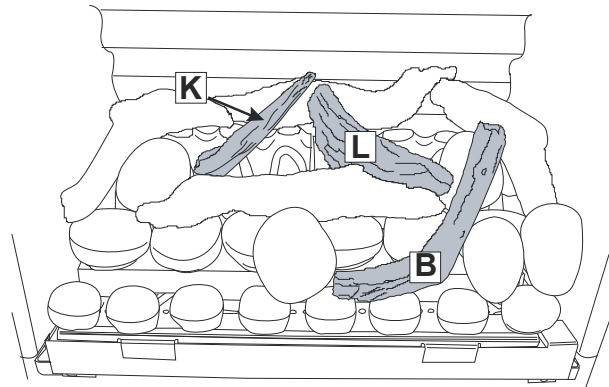
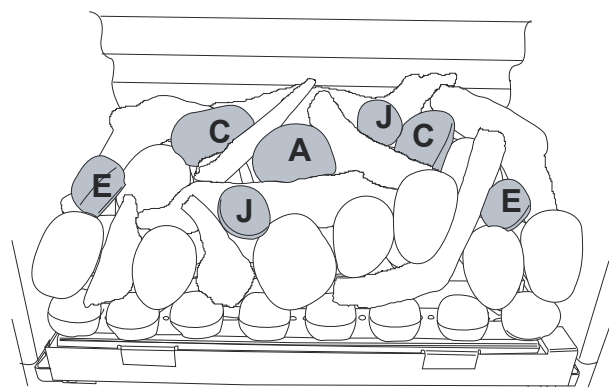

Figure 37
Figure 39
7. Continue laying the driftwood pieces and the pebbles as shown in **Figure 37** to **Figure 39**.